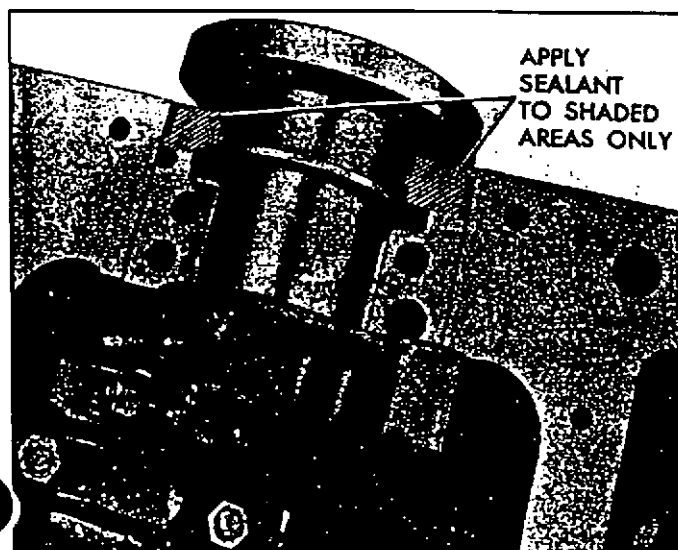

Fig. 9L—Sealing Bearing Cap
5. Lubricate the lip of a new seal with engine oil. Keep oil off the parting line surface. Gradually push with a hammer handle, while turning crankshaft, until seal is rolled into place. (Similar to installing a main bearing.) Be careful that seal tangs at parting line do not cut bead on back of seal. Use sealer at parting line on cap half of seal and cylinder block in seal area (fig. 9L).